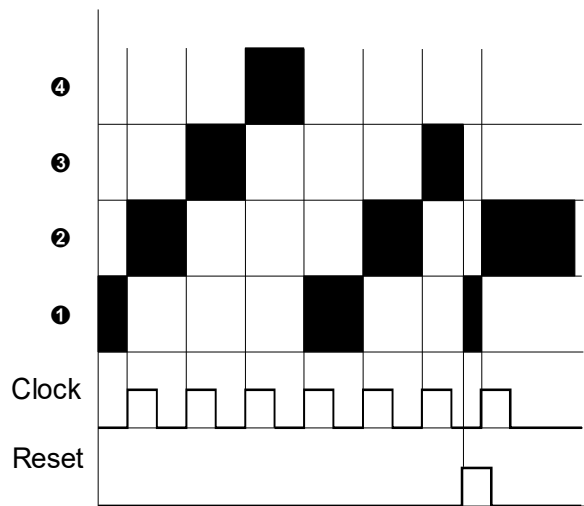

Fig. 1: How the A-151 switching works (■ : in / output connected)
Each time a pulse is received at the trigger input socket, the common out / input is connected to the next in / output. After the fourth in / output, the next trigger makes it step back to the first again, and so on (see Fig. 1).
A positive pulse at the **reset input** switches the out / input immediately back to the first in / output (see Fig. 1).
After stepping to the fourth in / output the next trigger pulse sends the common out / input back to the first in / output again (see Fig. 1).
If you want to over-ride the stepping sequence, and send the common out /input back to the first in / output, send a reset pulse to the **reset input ②** (see Fig. 1). The rising edge of this pulse immediately resets the common out / input to the first in / output.
Socket ④ is the **common out /input**. Each time a reset pulse is received, this socket is connected to the first in / output socket ④ (see Fig. 1).
④ I/O 1 • ⑤ I/O 2 • ⑥ I/O 3 • ⑦ I/O 4